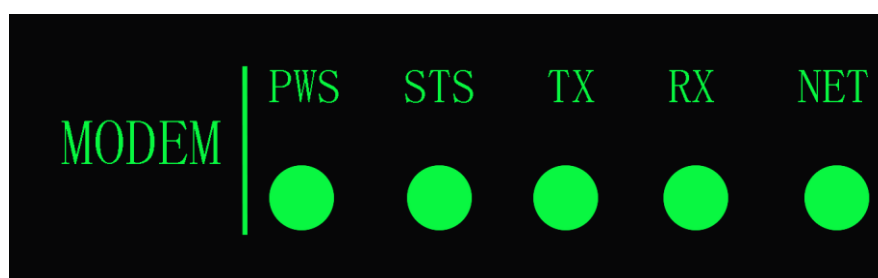

Figure 6-2 Modem Status
2. The Modem status indication is shown in Table 6-1 and Figure 6-2.